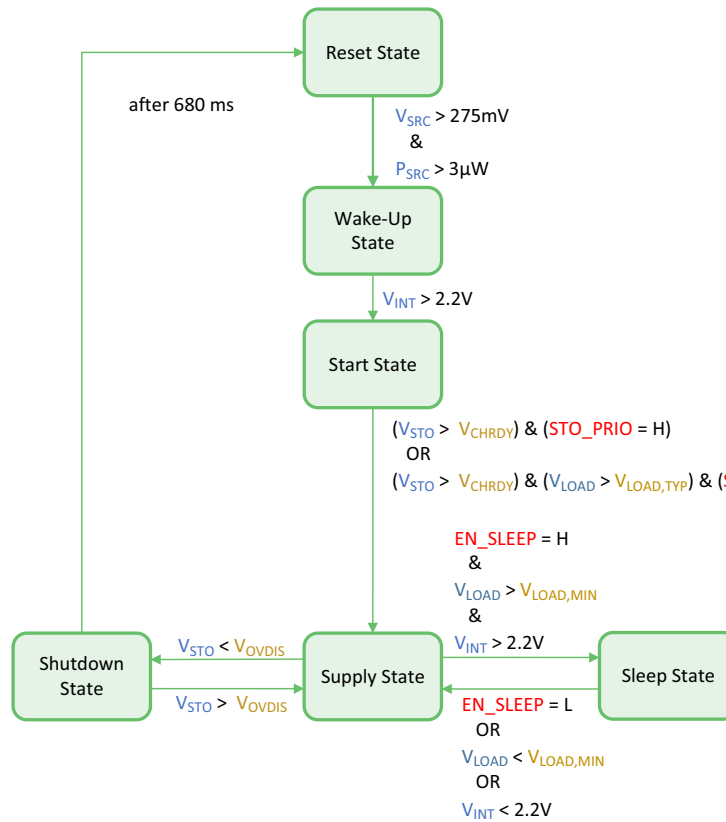

Figure 5: Diagram of the AEM00330 States
- If **EN\_SLEEP** is HIGH and conditions (shown on Figure 5) on  $V_{LOAD}$  and  $V_{VINT}$  are satisfied, the AEM enters **SLEEP STATE** (see section 8.3.4).